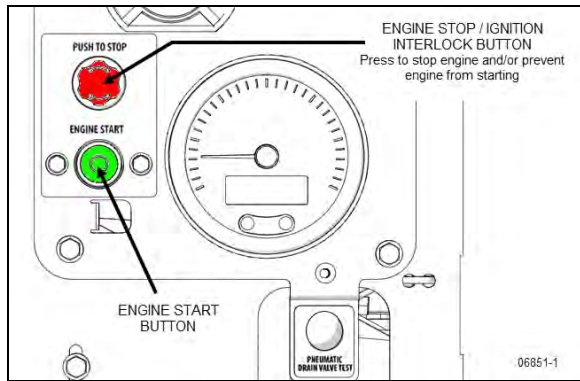

FIGURE 5: REAR START PANEL
3. On the engine compartment rear start panel (Figure 5), push the **engine stop/ignition interlock** button to prevent the engine from being started.